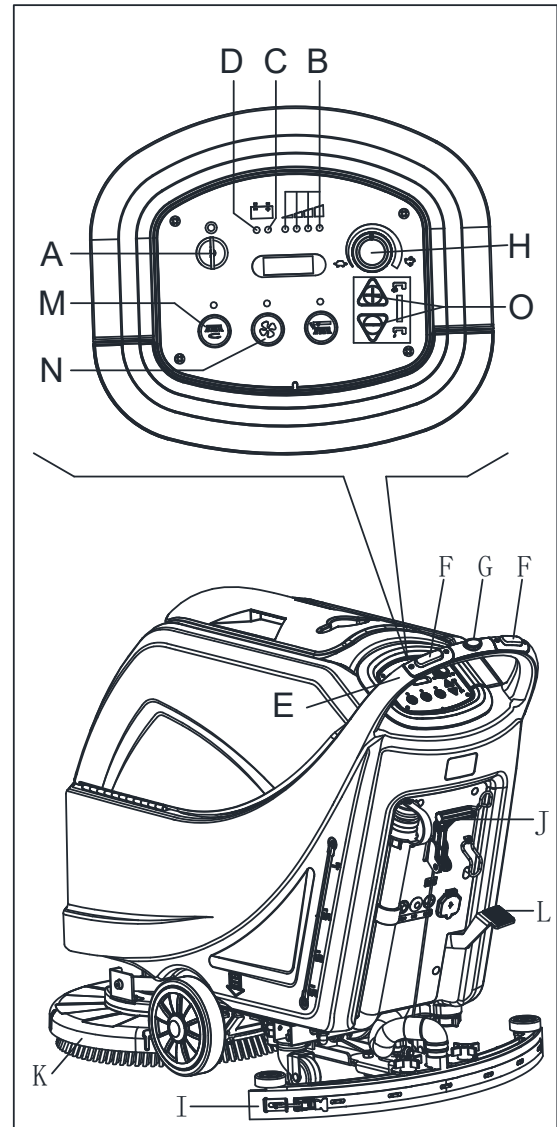

Figure 8
2. Insert the ignition key (A, Figure 8) and turn it to "I". Check that the green warning light (B) turns on (charged battery). If the yellow (C) or red warning light (D) turns on, turn the ignition key back to "0" and charge the batteries (see the procedure in Maintenance chapter).
- By pushing it with the hands on the handlebar (E) (only for machine without traction).
- By pushing it with the hands on the handlebar (E) and pressing the switch (F) to move forward, or pressing the switch (F) together with the switch (G) to move backward (only for machine with traction). The forward speed can be adjusted with the adjuster (H).
4. Lower the squeegee (I) with the lever (J).
5. Lower the brush/pad-holder deck (K) by lifting the pedal (L). (only for disc machine)
6. Press the brush/pad-holder switch (M) and the vacuum system switch (N).
7. Press the washing water flow control switches (O) as necessary, depending on the type of cleaning to be performed.
- (only for machine without traction) by pushing the machine with the hands on the handlebar (E) and pressing the switch (F).
- (only for machine with traction) by pushing the machine with the hands on the handlebar (E) and by pressing the
1. Lower the brush/pad-holder deck by press the Brush/pad-holder switch (M Figure 8).
2. While keeping both hands on the handlebar press the safety switch (F, Figure 8), then manoeuvre the machine and start scrubbing/drying the floor.